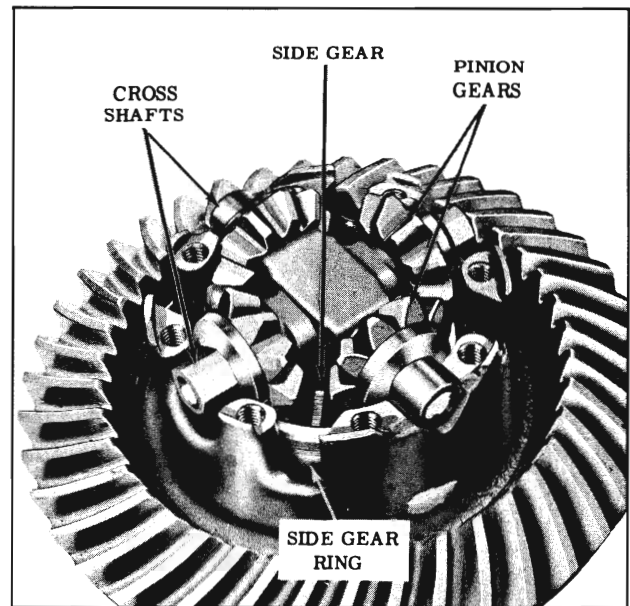

Fig. 6-44 Cross Shaft Installation
9. Install two pinion gears on one cross shaft and install the assembly into its original position in the case (notch in shaft up) with ends of cross shaft in largest openings in the case. (Fig. 6-44)